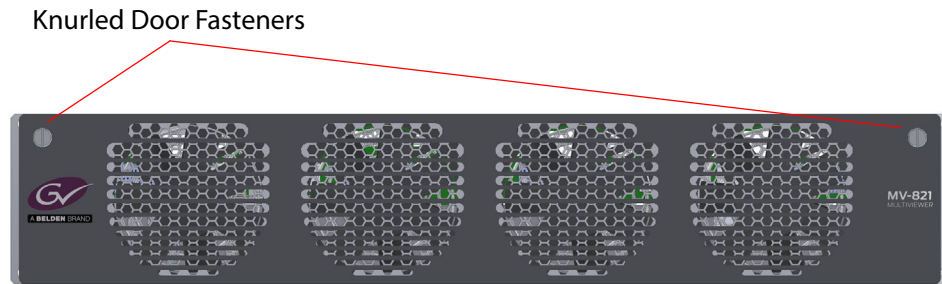

Fig. 2-3: MV-821 Multiviewer Front View, Door Closed (MV-821-HDBNC shown)
The front door has two knurled fastening screws and a grille, behind which are fitted four fans which draw air in at the front, see Figure 2-3.
- 1 Unscrew the two captive knurled door fasteners, see Figure 2-3.